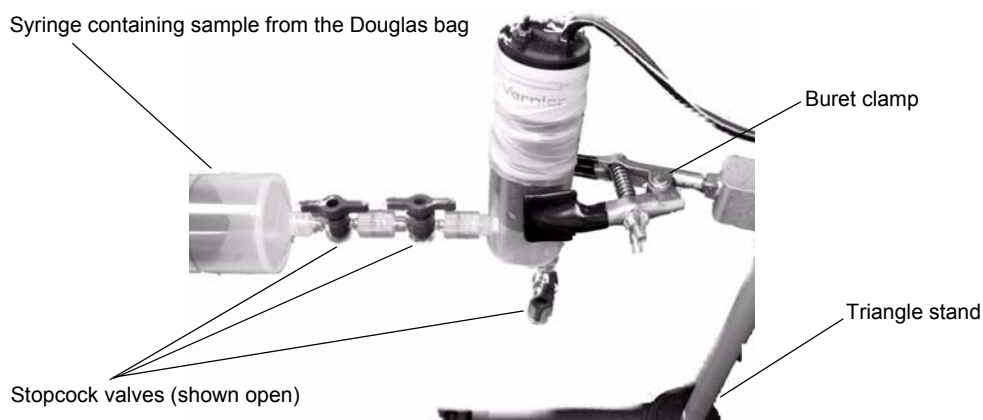

Figure 4-10. Inserting a gas sample into the oxygen sensor chamber
4. Connect the syringe to the O₂ sensor chamber, as shown in Figure 4-10.
5. Ensure all stopcock valves are open. There are three total valves (see Figure 4-10).